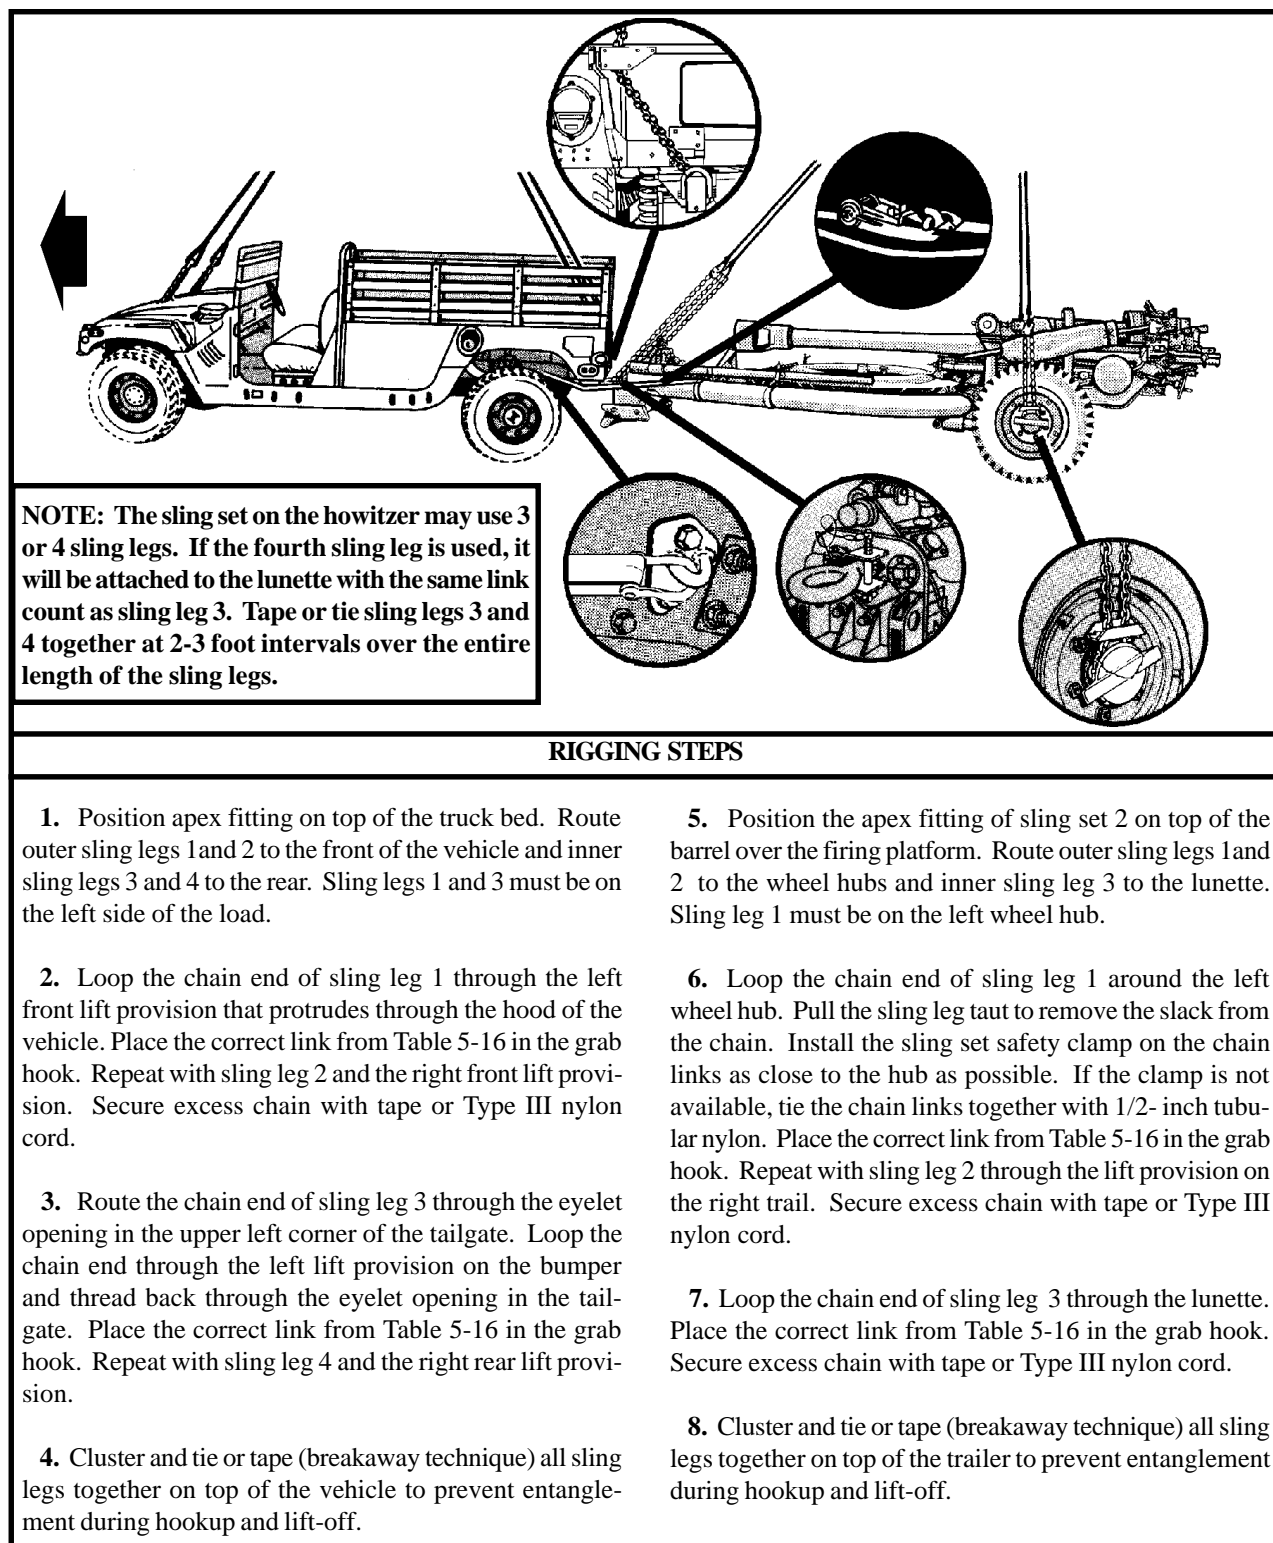

Figure 5-16. M1037/M1097 Truck, Utility, 1 1/4-Ton (HMMWV) and M119, 105-mm Howitzer
(2) **Rigging.** Rig the load according to the steps in Figure 5-16.